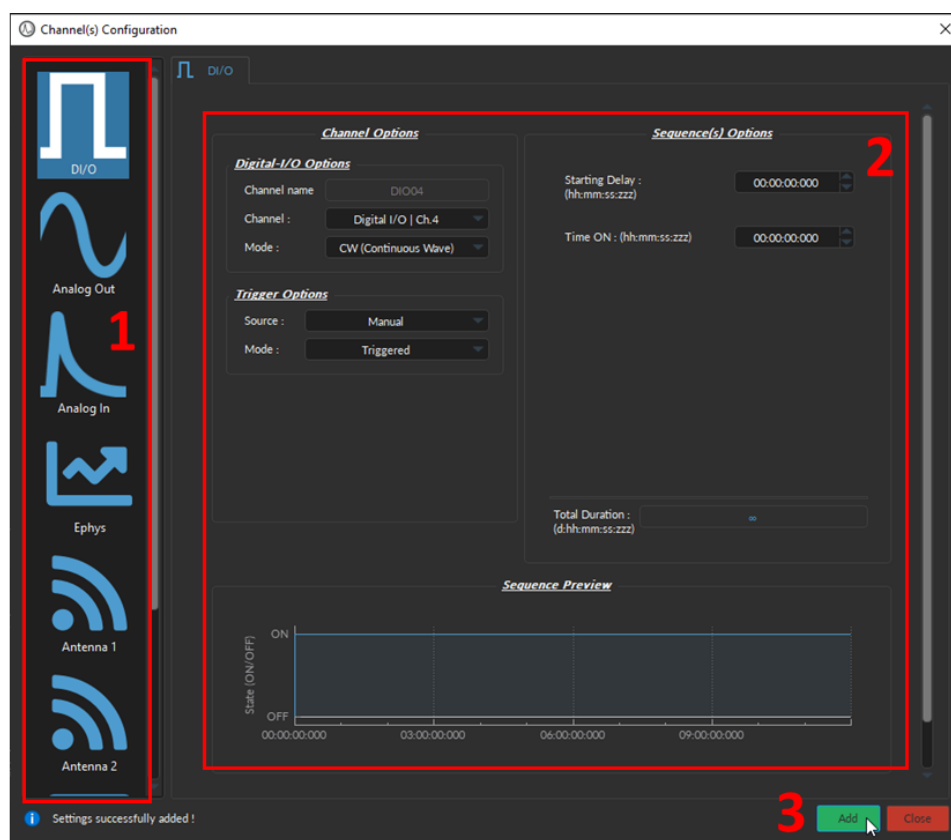

Figure 8.12: Channel(s) configuration window, Digital I/O input
To generate a new **Channel** using the **Channel(s) configuration** window (Fig. 8.12):
1. Select one of the available **Channel Type** icons from the left most column of the **Channel(s) Configuration** window (Fig. 8.12). Table 8.1 describes the use case of each type.
3. Select the **Add** button (Fig. 8.12) to generate the defined channel or to update an already configured channel, but does not automatically close the *Channel Configuration* window. This allows the user to conveniently set up all required channels one after the other.